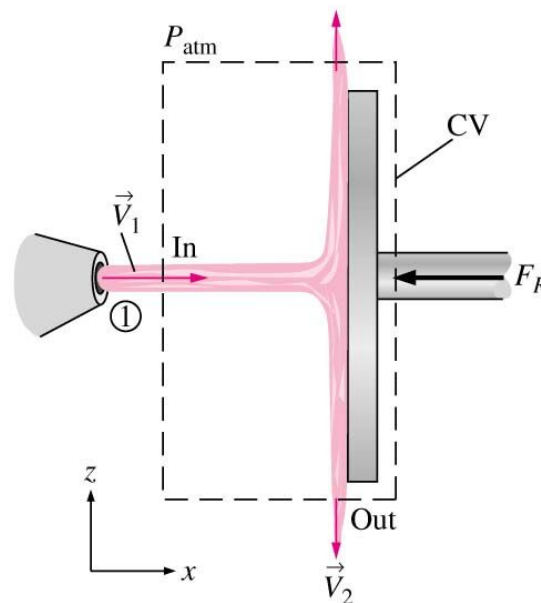

Figure 6
- (iv) A water jet striking a stationary plate is a good example of momentum analysis and Reynolds transport theorem application. Referring to **Figure 6**, the value of \vec{V}_1 is 30 m/s and the mass flow rate is given as 10 kg/s. The outflow \vec{V}_2 is given as 30 m/s. Determine the force needed to keep the plate stationary.